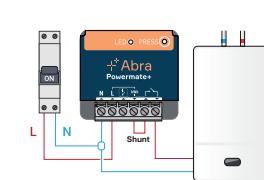

Figure 2
- 3 Wire the Powermate+ following figure 2.